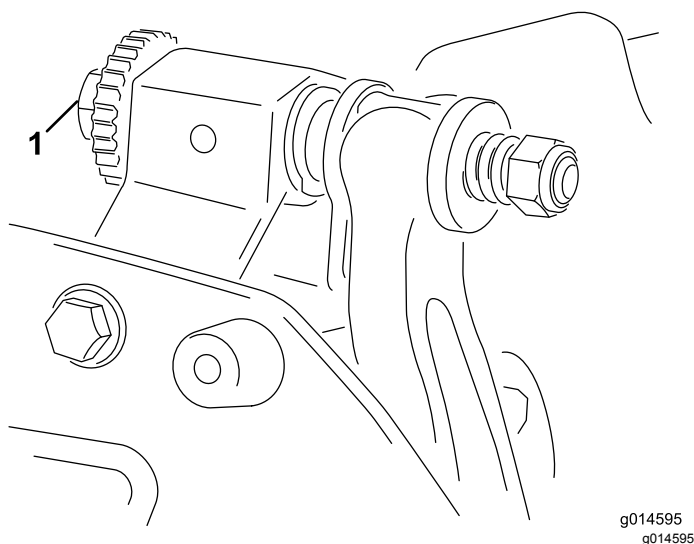

Figure 4
6. Turn the right bedbar adjusting screw (Figure 4) until you feel light pressure on the shim when sliding it side-to-side. Remove the shim.